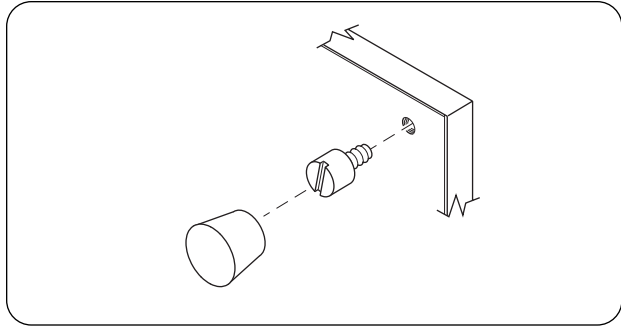

Figure 4. Leg Installation
4. Carefully lay unit on a side without the controls (requires two people). Install rubber feet to each leg, then install one leg in each corner of the cabinet bottom. Return unit to the upright position. (See Figure 4.)